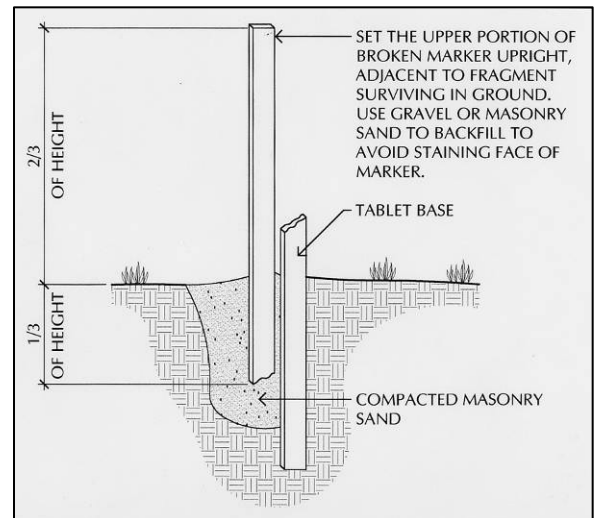

Figure 3.01: Temporary Tablet Resetting Detail. This can help preserve a tablet from becoming further damaged from foot traffic, maintenance
7. Upright fallen markers as soon as possible to help prevent further damage to the marker. If the marker is broken at grade, the marker can be reset temporarily as shown in Figure 3.01. Further investigation should take place in the area of the stone to attempt to find the lower portion of the stone. Many times this can be a foot or more below grade due to sinking over time. If found, the broken pieces can be cleaned up and the marker repaired and reset.